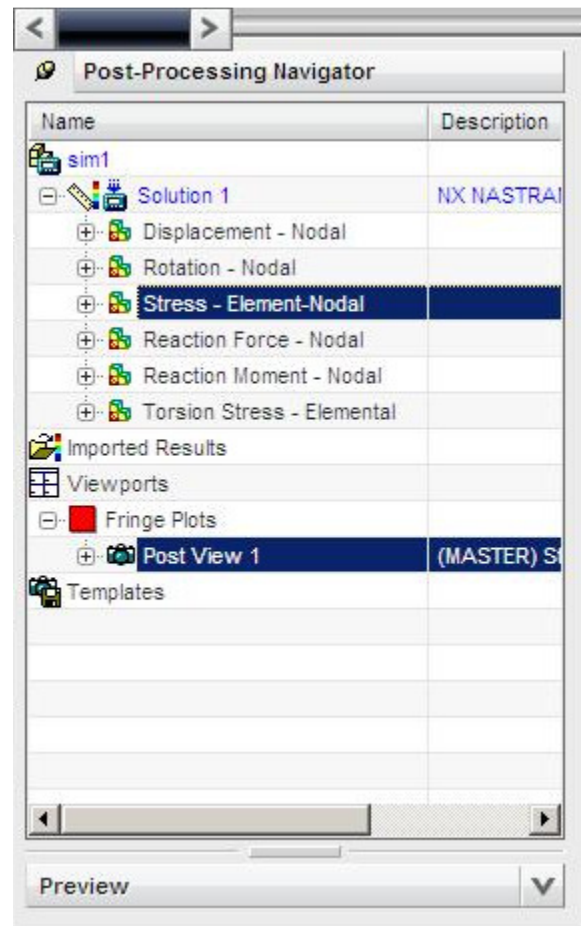

Figure 8. Post-Processing Navigator.
- a) In the Simulation Navigator double-click on the results item to bring up the “Post-Processing Navigator” shown in Figure 8. If this gives an error, it is likely that your structure is a mechanism. To test this try fixing nodes with fix constraints to see if the problem goes away.